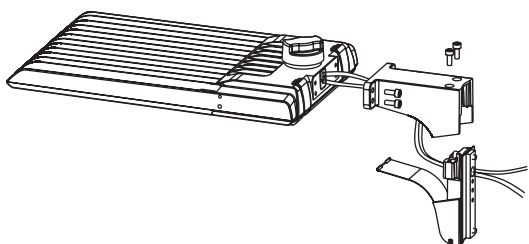

Figure 14
1. Separate the pole mount assembly into three pieces by removing the M8 × 25mm bolt in the center of the adjustment knuckle and loosening the two set screws. (Figure 14)
2. Pass the input wire through the center of the first two sections and secure the bracket to the fixture housing with the (4) M8 × 25mm bolts (included). (Figure 14)